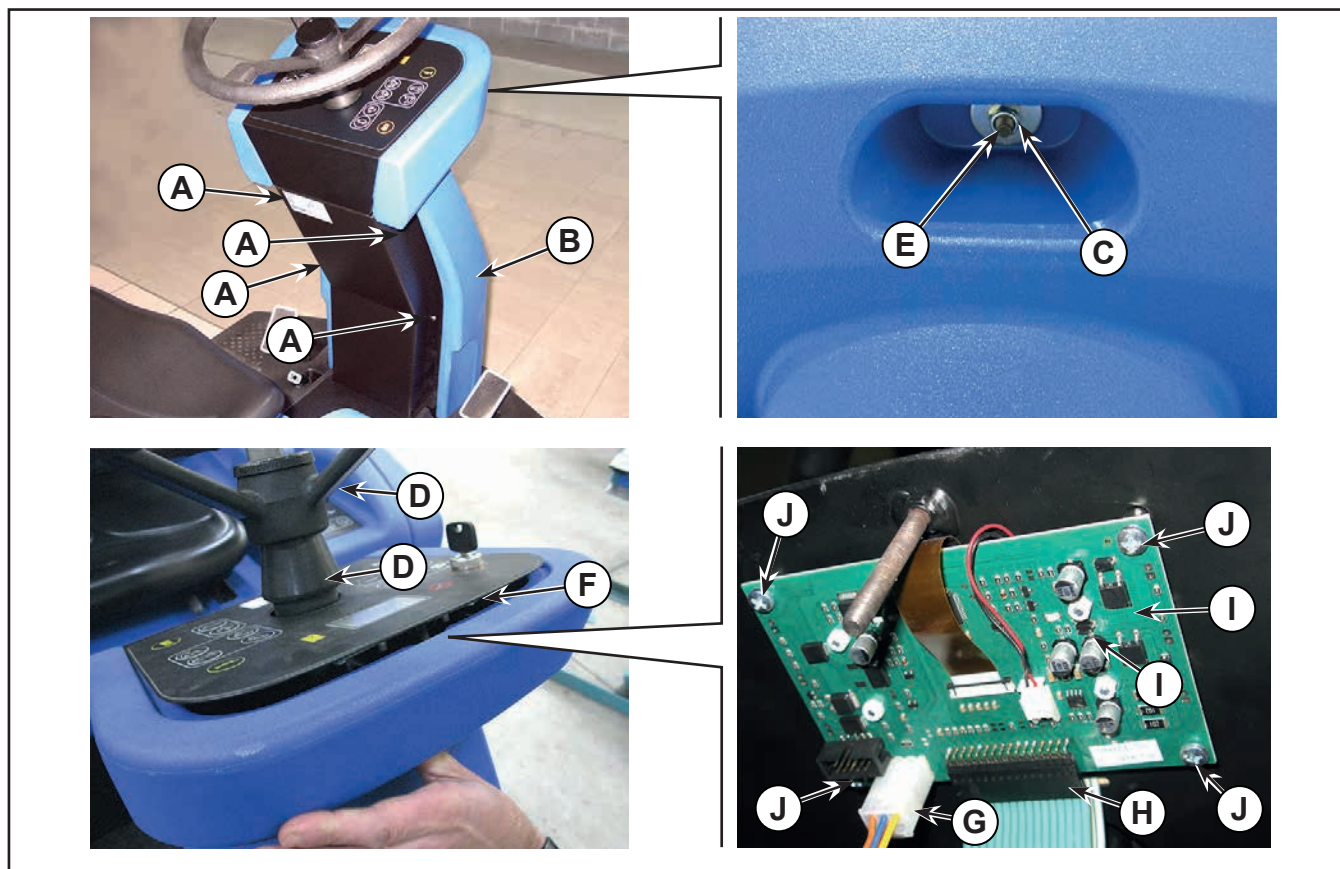

Figure 15
5. Unscrew the four screws (A, Figure 15) fastening the fairing (B).
6. Unscrew the nut (C) on the front.
7. Slide the sleeve (D) until it is flush on the steering wheel.
8. Press the stud (E), sliding it upwards (causing the Main Control Board (F) to lift slightly, then remove the fairing (B) by disengaging it from its seat and the stud (E).
9. Working from underneath the Main Control Board (F), disconnect the electrical connections (G) and (H) of the Display Controller (I).
10. Unscrew the four screws (J) and remove the Display Controller (I).